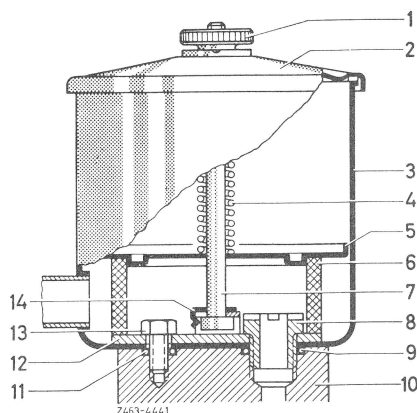

Fig. 1
1 Unscrew knurled nut (1) and remove closing cover (2) together with paper seal on power steering pumps with screwed-on supply tank. Remove compression spring (4), damping plate (5) and filter ring (6). Unscrew hex. bolt (13) and hollow screw (8). Remove supply tank (3) and O-rings (9 and 11) from pump housing (10) (Fig. 1).